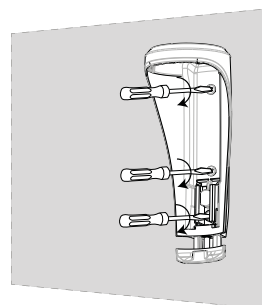

Figure 4 -
2. Fasten the bracket to the wall surface with the screws (see figure 4).